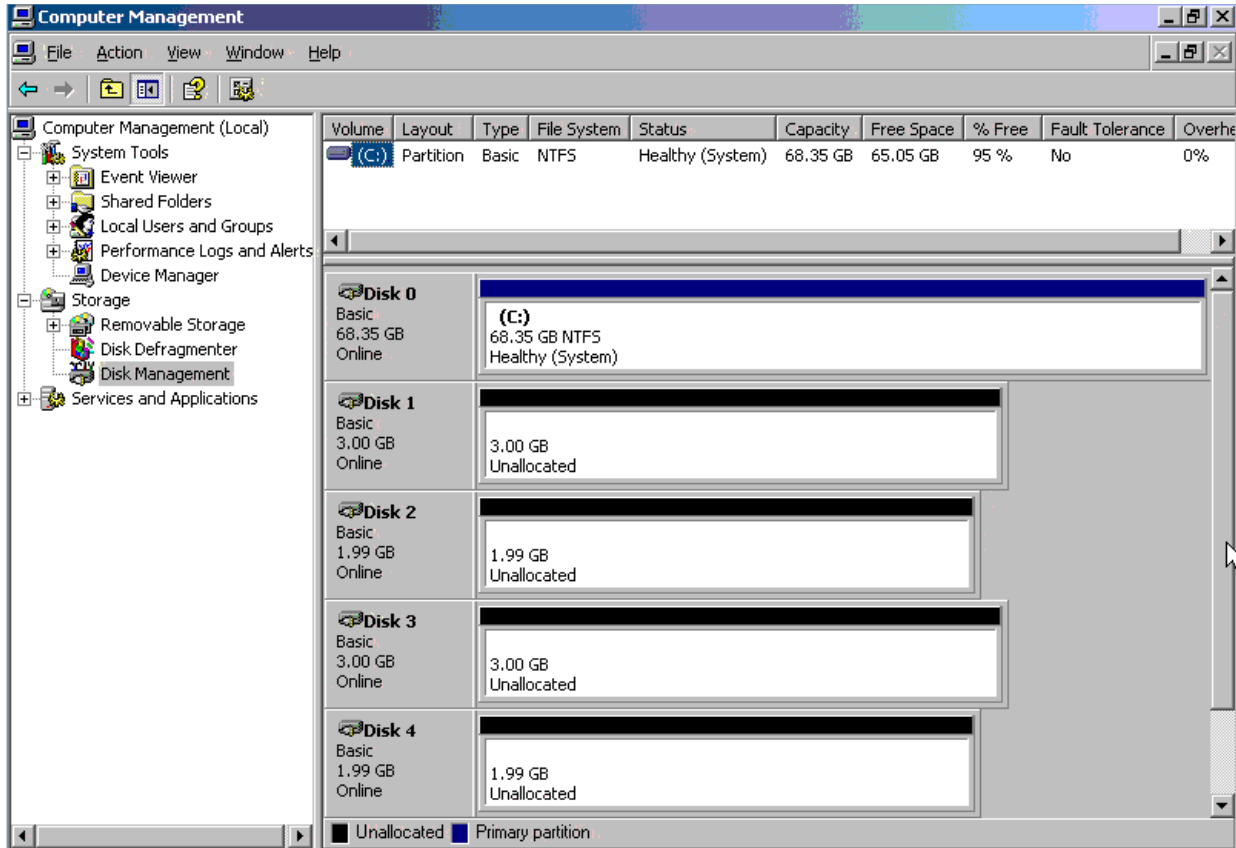

Figure 4-70 Remote Drives in Disk Management
24. You should now see your additional remote drives in disk management as shown in Figure 4-70.